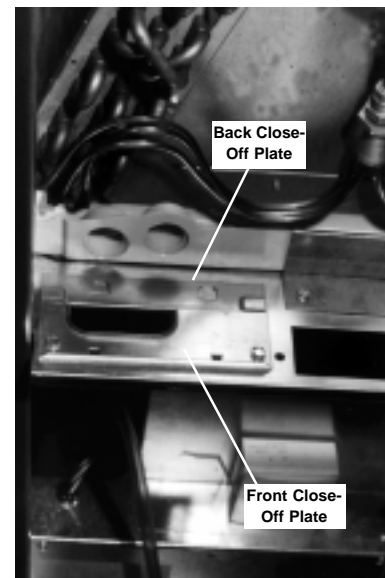

Figure 2: Close-off Plates
- b. Install the back close-off plates in the bottom knock-out and in the hole in the coil shelf. (see Figure 2)
- d. Install the front close-off plates in the bottom knock-out and in the hole in the coil shelf to protect and secure the refrigerant and drain lines. (see Figure 2) Two holes are provided in the coil shelf for securing the plate with screws. Two 1/8" holes must be drilled in the bottom of the furnace to screw down the other plate.
\* **NOTE: Figure 2 shows close-offs in coil shelf. Be sure to repeat process in bottom knock-out.**